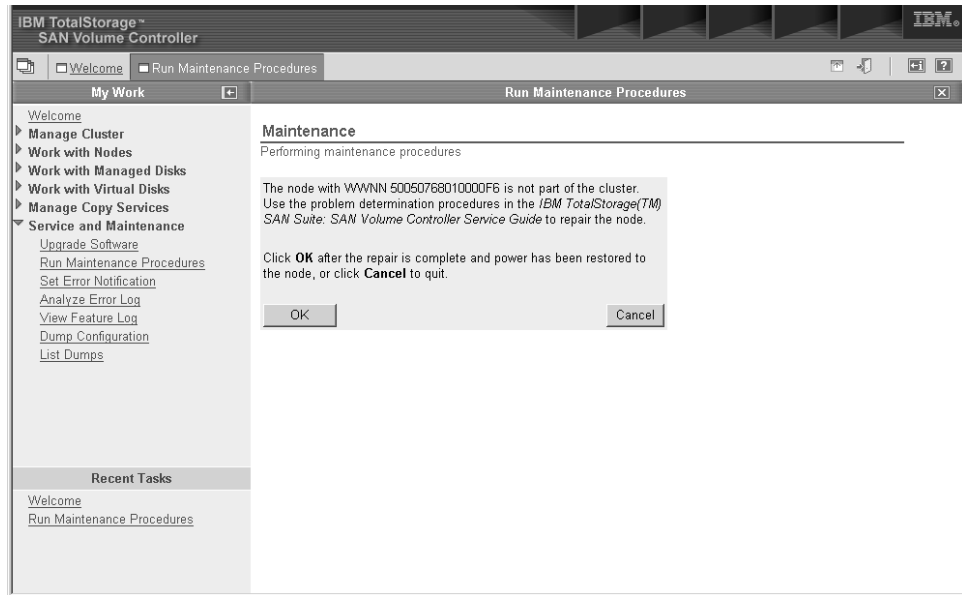

Figure 52. Example of what is displayed for cluster action
4. Click OK to display what is shown in Figure 52 on page 37.